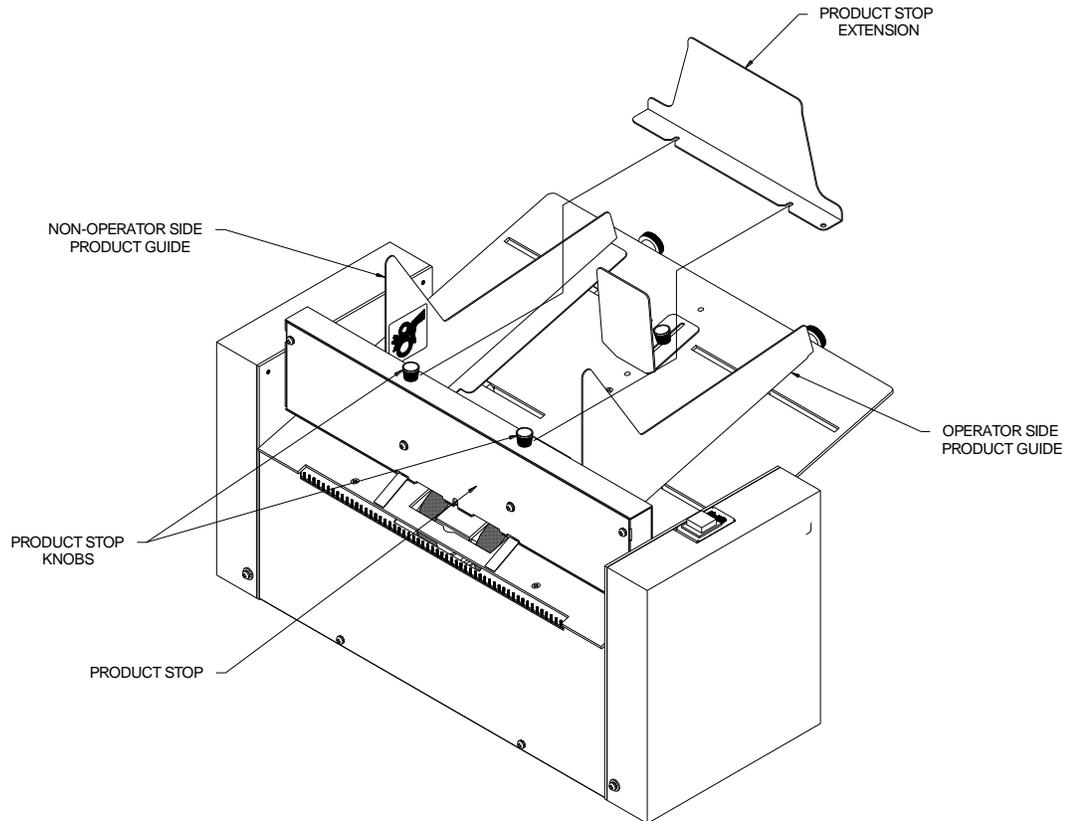

Figure 4.2 – Product Stop Extension
1. Loosen both PRODUCT STOP KNOBS secured to the top of the PRODUCT STOP (refer to **Figure 4.2**).
3. Tighten the PRODUCT STOP KNOBS into the PRODUCT STOP. The PRODUCT STOP EXTENSION should be secured to the PRODUCT STOP and form a straight surface from the tray to the top of the PRODUCT STOP EXTENSION (refer to **Figure 4.2**).